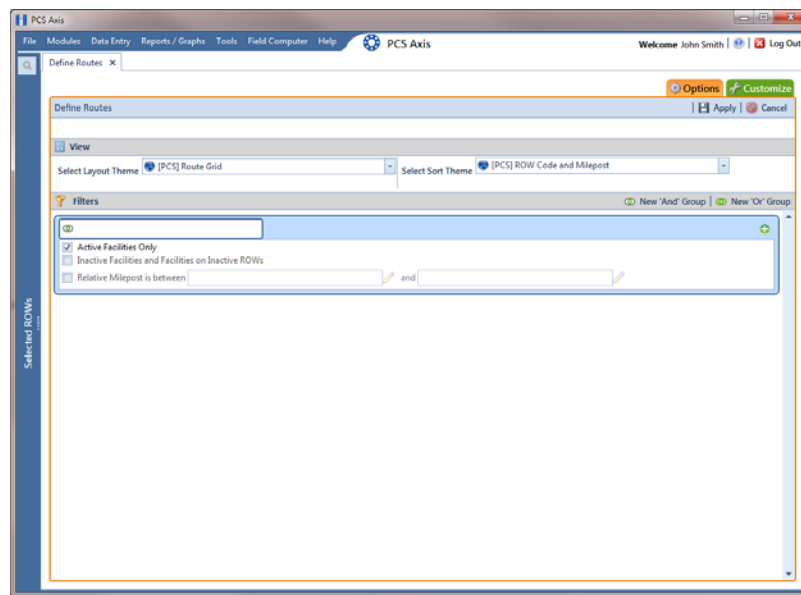

Figure 8-3. Filters
- a Click the check box of one or more options in *Filters* and then click  **Apply**. For example, click **Active Facilities Only** to only include active facilities (Figure 8-3, page 352).